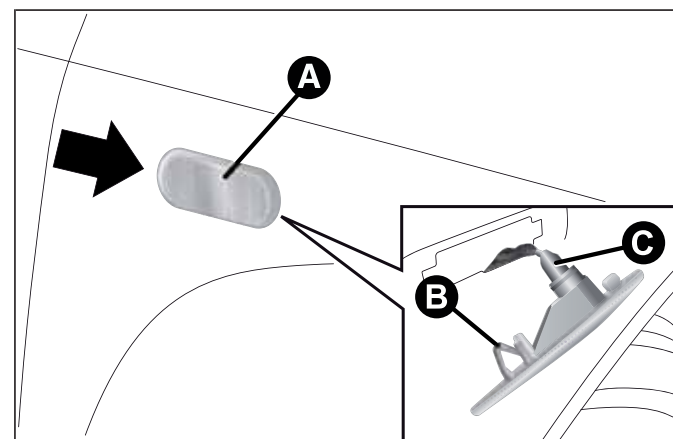

fig. 127
- ☐ adjust the lens A fig. 127 to compress in the internal catch B, then pull the unit outwards;